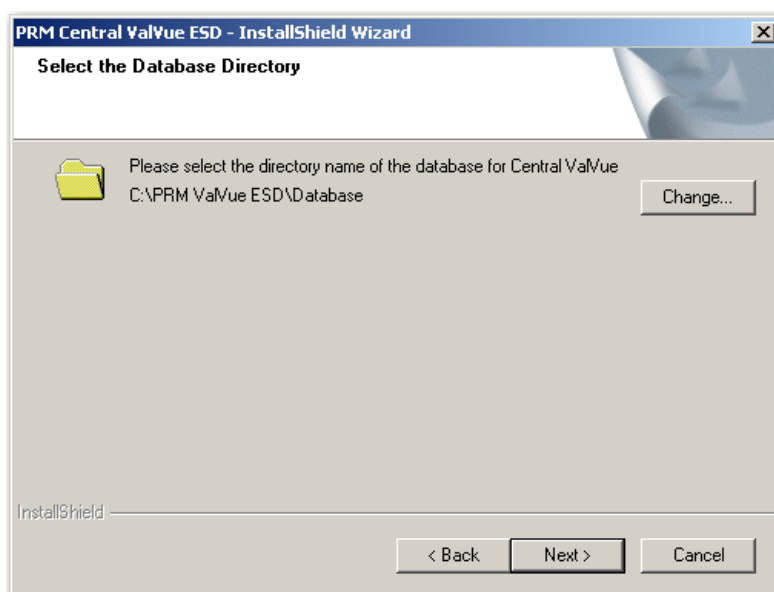

Figure 10 - PRM Central Server Database Directory Destination Folder
5. Click **Next** and the screen appears (*Figure 10*).